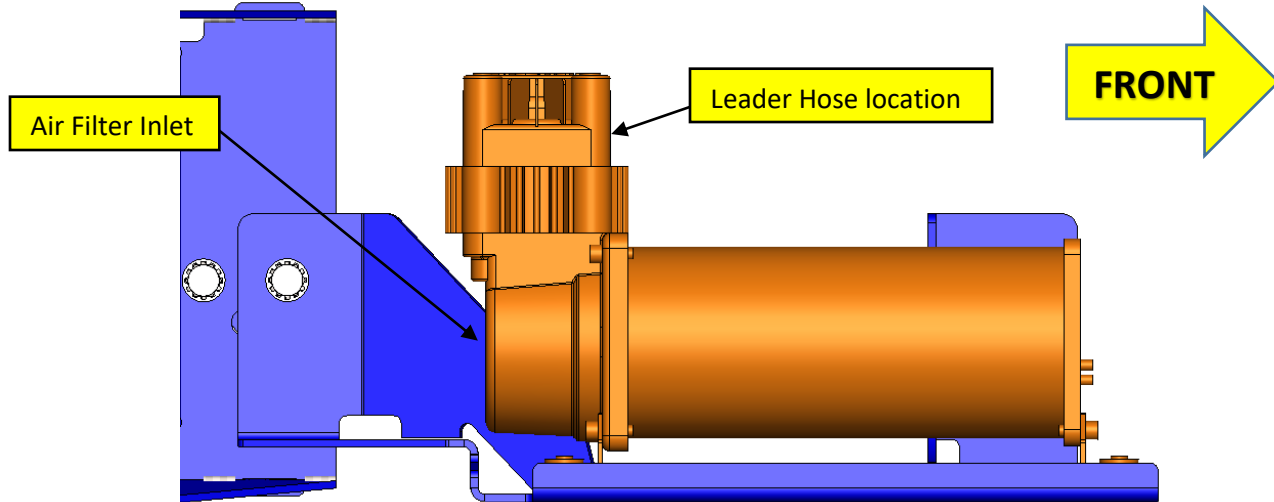

Figure 19 - Compressor Mounted on RAPTOR-101
10.5.1. Using hardware #19, #20, #21, & #22 mount Compressor to RAPTOR-101 as shown in Figure 19 & 20 below.